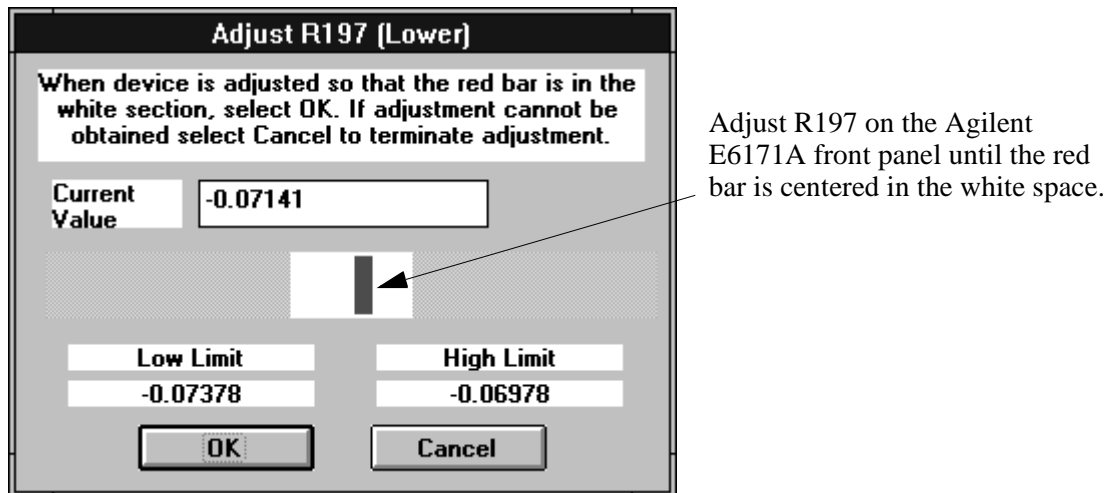

Figure 6-4. Typical Prompt Box to Adjust Potentiometer R197 on the Agilent E6171A Module
9. When prompted by the 'autoadj.tpa' testplan, adjust potentiometer R197¹ (front panel of the Agilent E6171A module) until the red vertical bar is centered in the white segment of the measurement range. See Figure 6-4.
5. When prompted by the 'autoadj.tpa' testplan, adjust potentiometer R197¹ (front panel of the Agilent E6171B module) to match the indicated reading. See Figure 6-4.